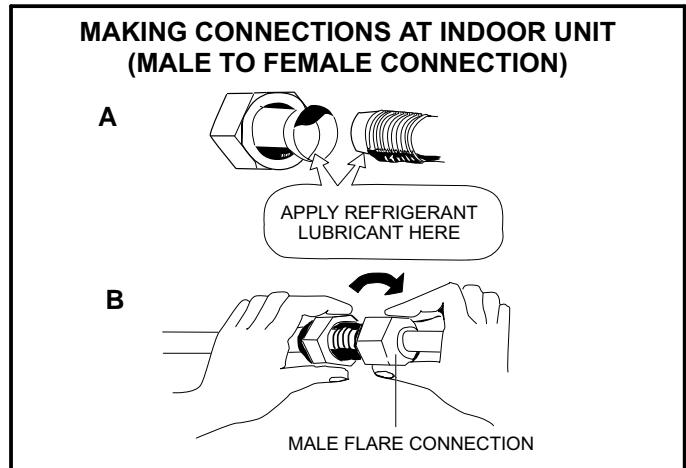

FIGURE 37
2. Apply refrigerant lubricant to the matching surfaces of the flared line set and union before connecting them together (figure 37 -- **A**).
3. Align the union tube and flared refrigerant line with each other, then tighten the flare nut lightly at first to obtain a smooth match (figure 37 -- **B**).